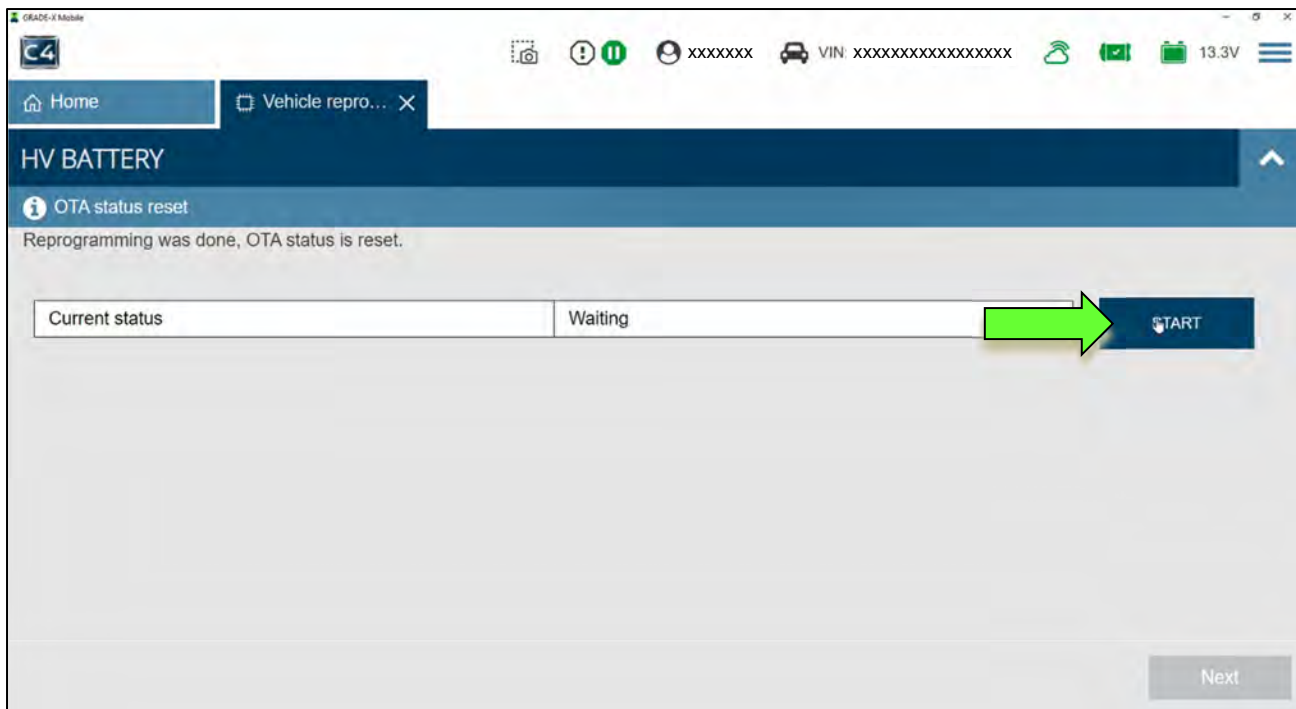

Figure 25
45. When the screen in Figure 25 is displayed, select **START**.